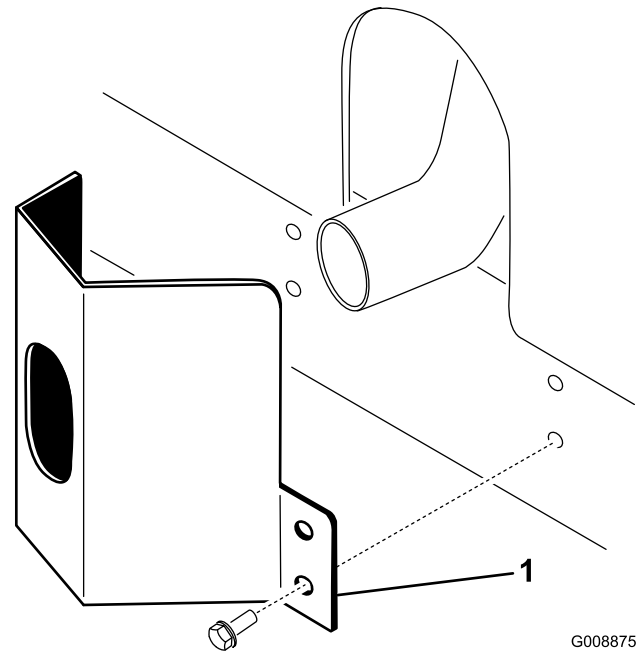

Figure 7
1. Position the exhaust guard around the muffler while aligning the mounting holes with the holes in the frame (Figure 7).
2. Secure the exhaust guard to the frame with 4 self-tapping screws (Figure 7).